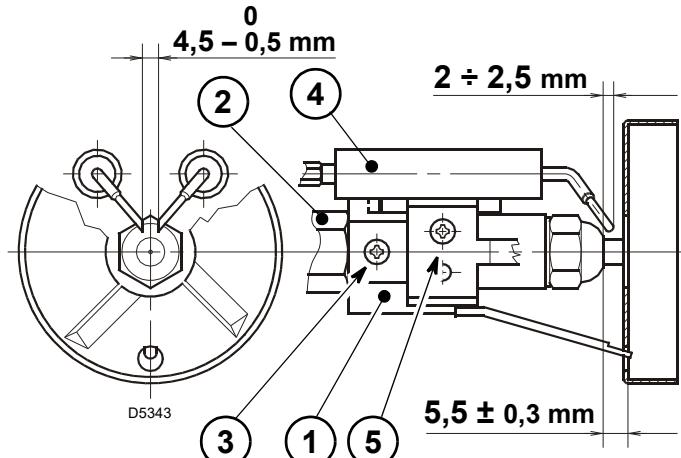

Fig. 10
These dimensions Fig. 10 must be respected.
- Rest the diffuser disc-holder assembly 1)(Fig. 10) against the nozzle holder 2)(Fig. 10) and lock it in place with the screw 3)(Fig. 10). For any adjustments of the electrode assembly 4), loosen screw 5)(Fig. 10).
- Remove the wires 4) from the electrodes, loosen the screw 3)(Fig. 10) and remove the diffuser disc-holder assembly 5) from the nozzle-holder assembly 7).